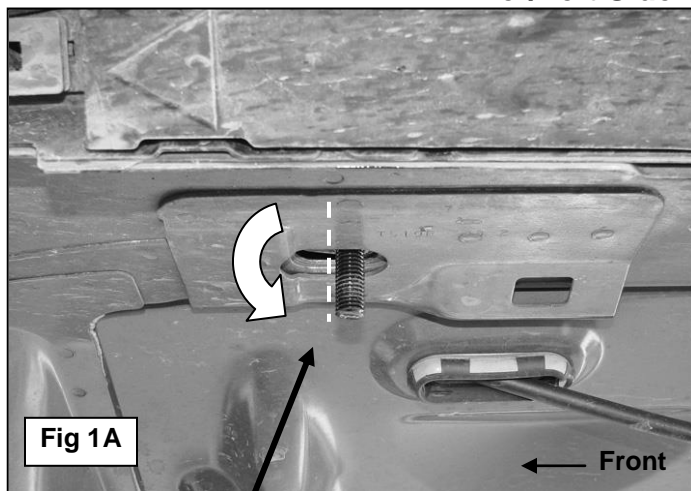
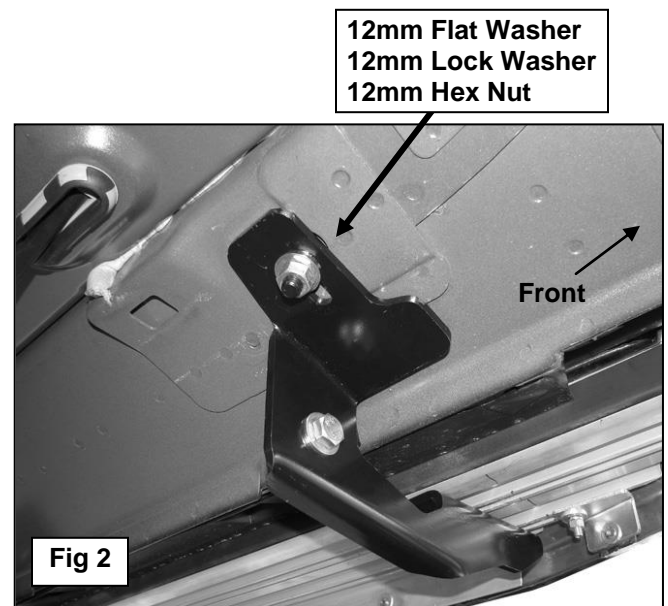

Fig 1A
Fig 2
2. Start installation under the driver side of the vehicle. Select (1) 12mm x 35mm Small T-Bolt Plate and insert it into the factory oval hole in the floor panel, **(Figures 1A & 1B)**. Rotate the Bolt Plate 90-degrees so that the plate is across the oval hole. Select the driver side front Mounting Bracket. Hang the Bracket from the Bolt Plate with (1) 12mm Flat Washer, (1) 12mm Lock Washer and (1) 12mm Hex Nut, **(Figure 2)**. **NOTE:** Make sure that the mounting flange on the front Bracket is lined up properly with the indent in the floor panel. The front Mounting Bracket must sit flat against the floor panel. Do not tighten hardware at this time.